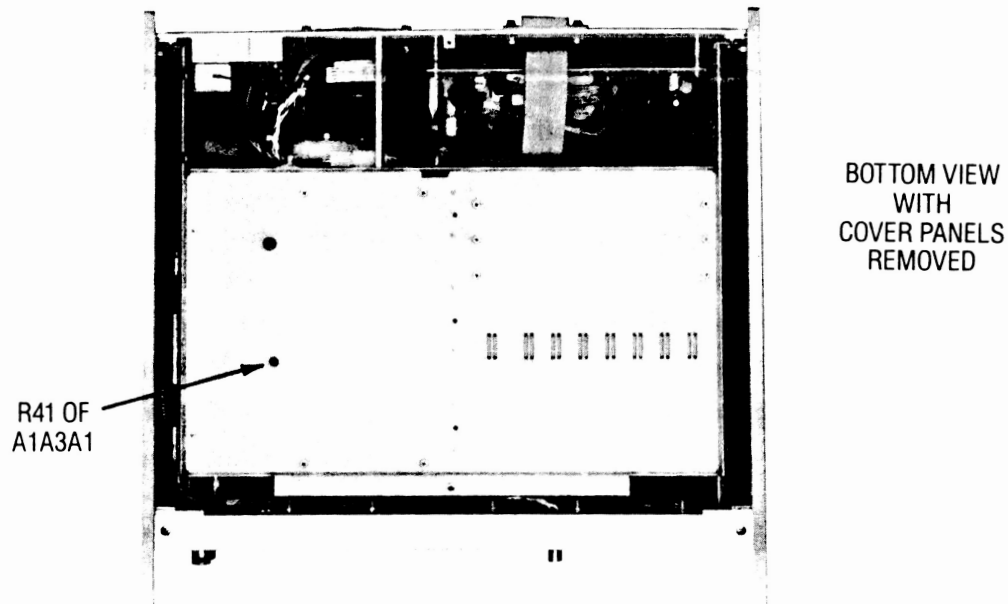

Figure 3-21. LOCATION OF R41 OF A1A3A1
13. If the light bar does not light when the gain is between 36 and 40 dB, set the attenuators to obtain a gain of 38 dB as shown in Window B. Then, slowly adjust resistor R41 on the RF Amplifier Assembly A1A3A1 until the third light bar lights. The location of R41 is shown in Figure 3-21.